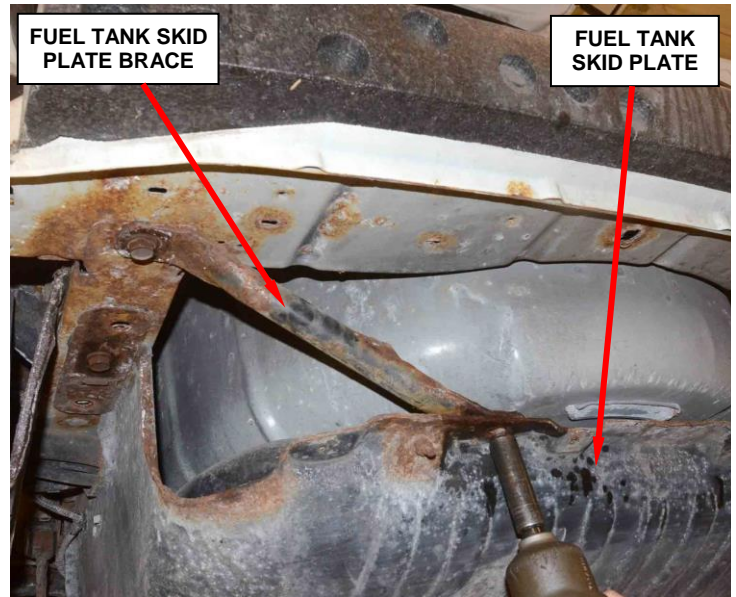

Figure 8 – Skid Plate Brace
14. **For vehicles equipped with fuel tank skid plate braces**, remove and discard the original braces (Figure 8).
15. **With the help of an assistant**, place the new trailer hitch into position and install the six retaining bolts (Figure 8). Tighten the bolts to 75 ft. lbs. (101 N·m).